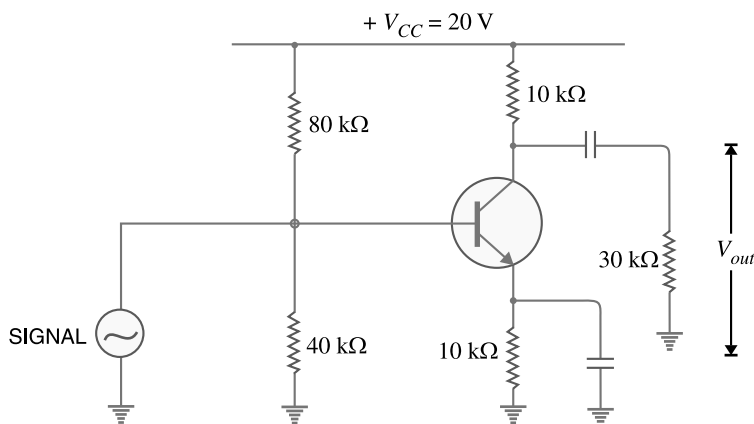

Fig. 22.14
**Example 22.8.** Fig. 22.14 shows the transistor amplifier in CE arrangement. The  $h$  parameters of transistor are as under :